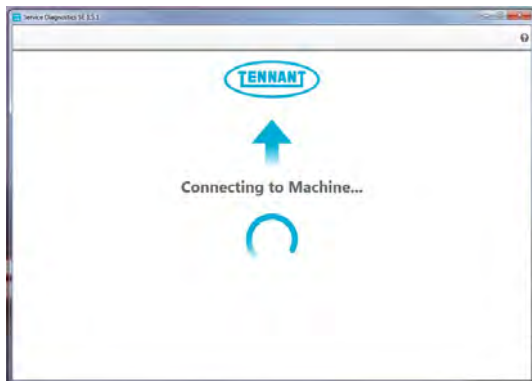

FIG. 15
5. Allow the Service Diagnostics tool to connect to the lithium battery network and the lithium battery service screen to open. (Fig. 15)